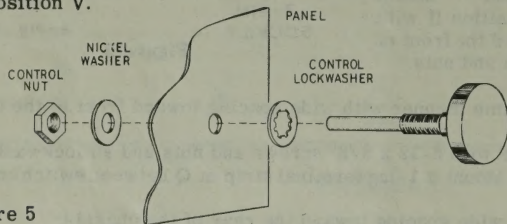

Figure 5
- (✓) Mount the single wafer rotary switch at W, Pictorial 1, using a 3/8 lockwasher inside the chassis and a 3/8-32 control nut and flat washer on the outside. Refer to Figure 5.